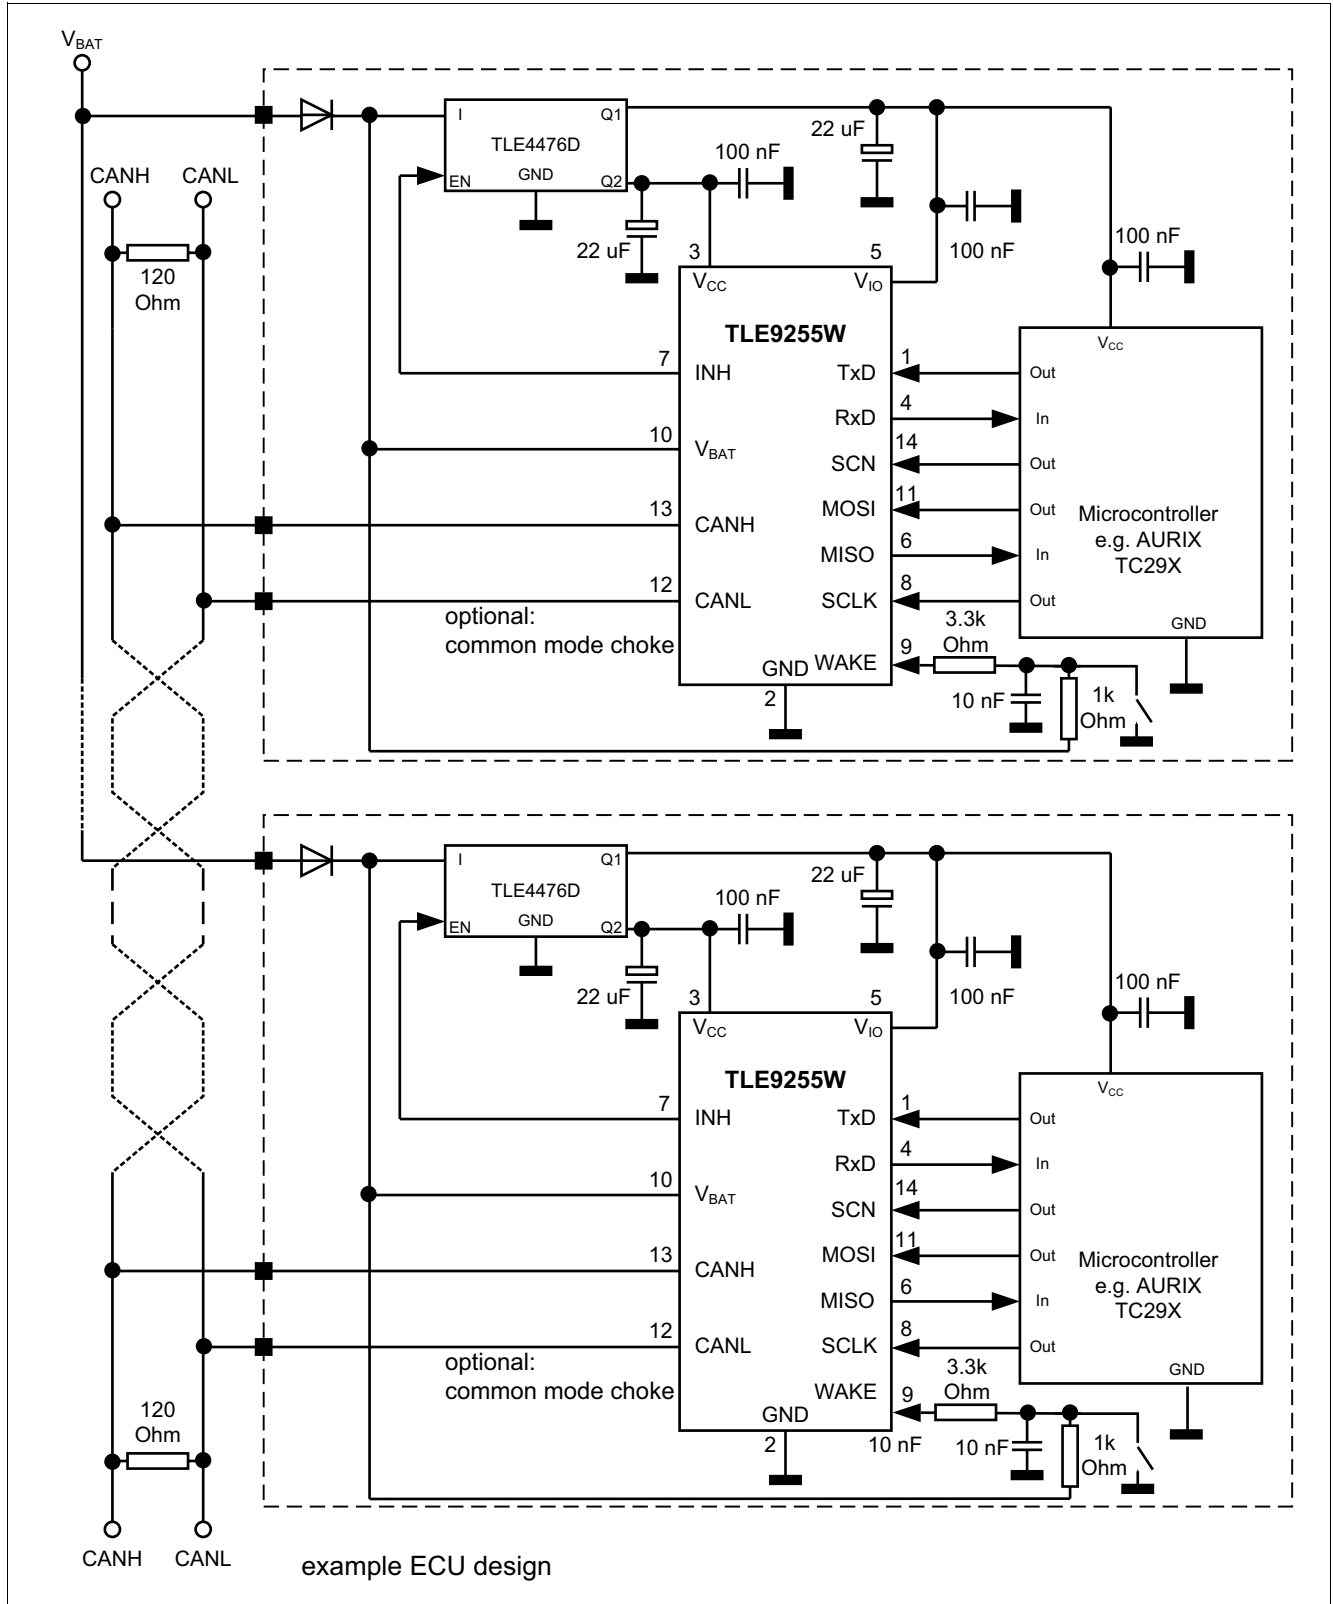

Figure 53 Application circuit
1) 10 nF capacitor and 3.3 k $\Omega$  resistor required (see Figure 53).
To adapt the digital input and output levels of the TLE9255W to the I/O levels of the microcontroller, connect the power supply pin  $V_{IO}$  to the microcontroller voltage supply (see Figure 53).